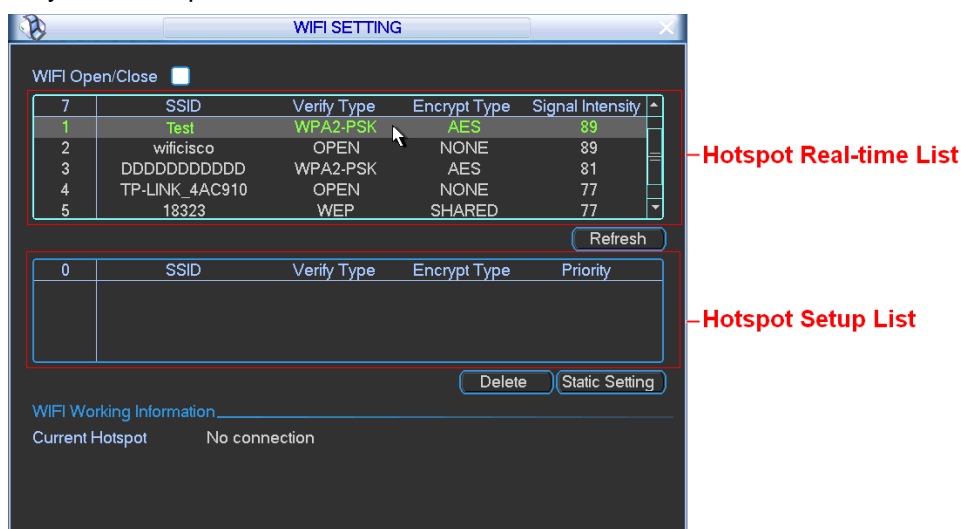

Figure 4-24
The WIFI interface is shown as below. See Figure 4-24.
- b) In Figure 4-24, click Refresh button to view the entire WIFI signals available.